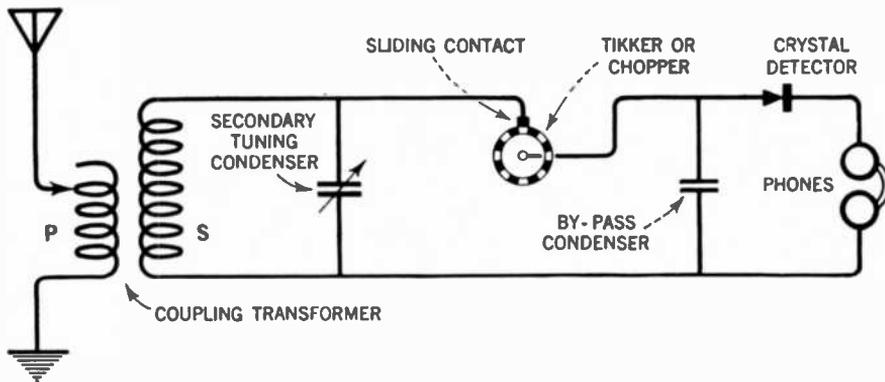

FIG. 62.—A crystal detector may be used with a tikker or chopper to receive c.w. signals.
*Answer.* A crystal may be used with a "tikker" or chopper as shown in Figure 62 to receive c.w. signals. The tikker or chopper is rotated by a small
motor connected to the brass disk. Connection to the chopper from the crystal is made by means of a spring contact on the side of the chopper disk, whereas a brush rests on the outer surface which is fitted with alternate strips of metal and highly insulated material as shown in the diagram. When the disk is rotated the circuit to the crystal detector and headphones is closed and opened at regular intervals, usually from 500 to 1000 times per second, thereby producing currents of audio-frequency. The "tikker" method of reception has long been obsolete and it is doubtful if spare parts for such an arrangement could be found on ship-board. An emergency method of receiving c.w. signals with a crystal would be to utilize the transmitter chopper. The leads from the transmitter should be removed from the chopper and the chopper in turn connected to a receiving circuit as shown in Figure 62.